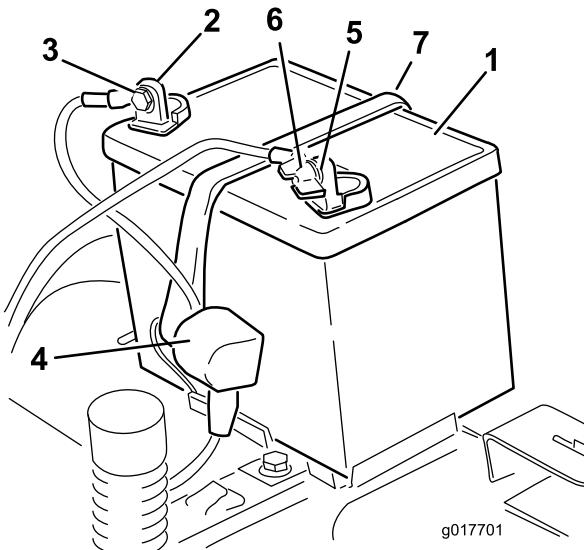

Figure 51
- Disconnect the negative (black) ground cable from the battery post (Figure 51).
- Disconnect the positive (red) cable from the battery post (Figure 51).
- Remove the battery hold-down (Figure 51), and lift the battery from the battery tray.
1. Position the battery in the tray (Figure 51).
5. Secure the battery with the hold-down (Figure 51).